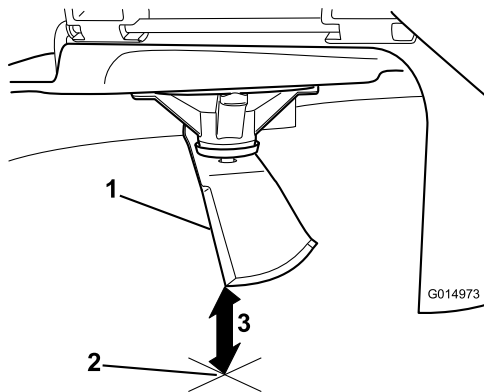

Figure 58
3. Measure from the tip of the blade to the flat surface (Figure 58).